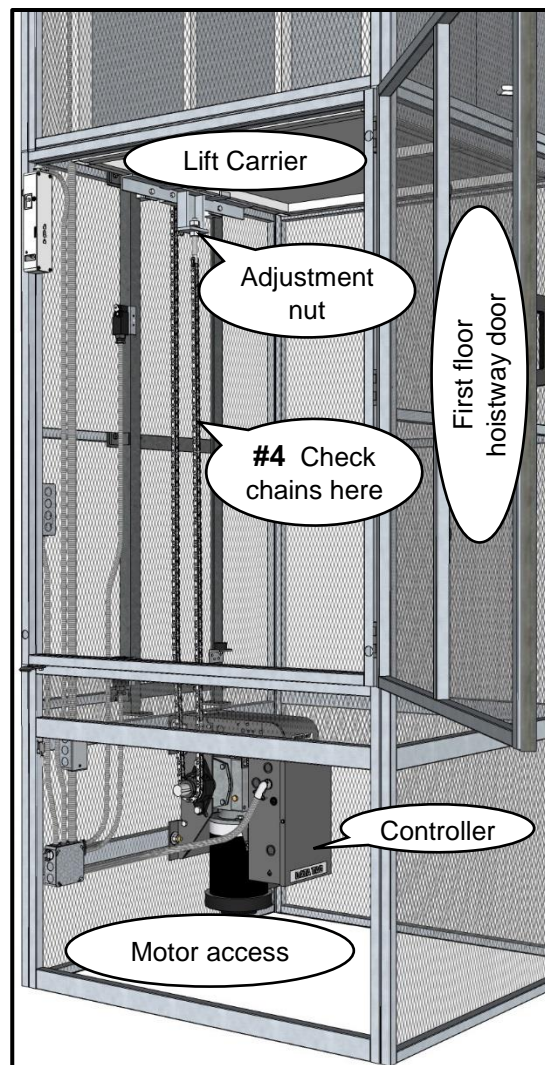

Figure 10
- 1 From the first floor, open the hoistway door and motor access panel. (see Figure 10)
- 2 Through the motor access panel open the controller and use the "Up" contactor to move the lift carrier up until the bottom of the carrier is approximately 6 feet above the floor. (see Figures 10, 12 & 13)
- 4 Verify that both the front and back chains are taught at chest height. (see Figure 10) If there is any slop in the chain continue on to the next step. If the chains are both taught go on to Step 6.